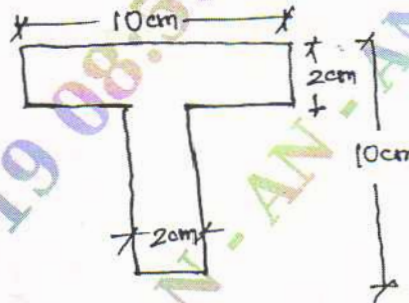

Fig. Q2(b)
- b. Determine moment of inertia of the section about the horizontal and vertical axis passing through the centre of gravity of the section shown Fig. Q2(b). (12 Marks)